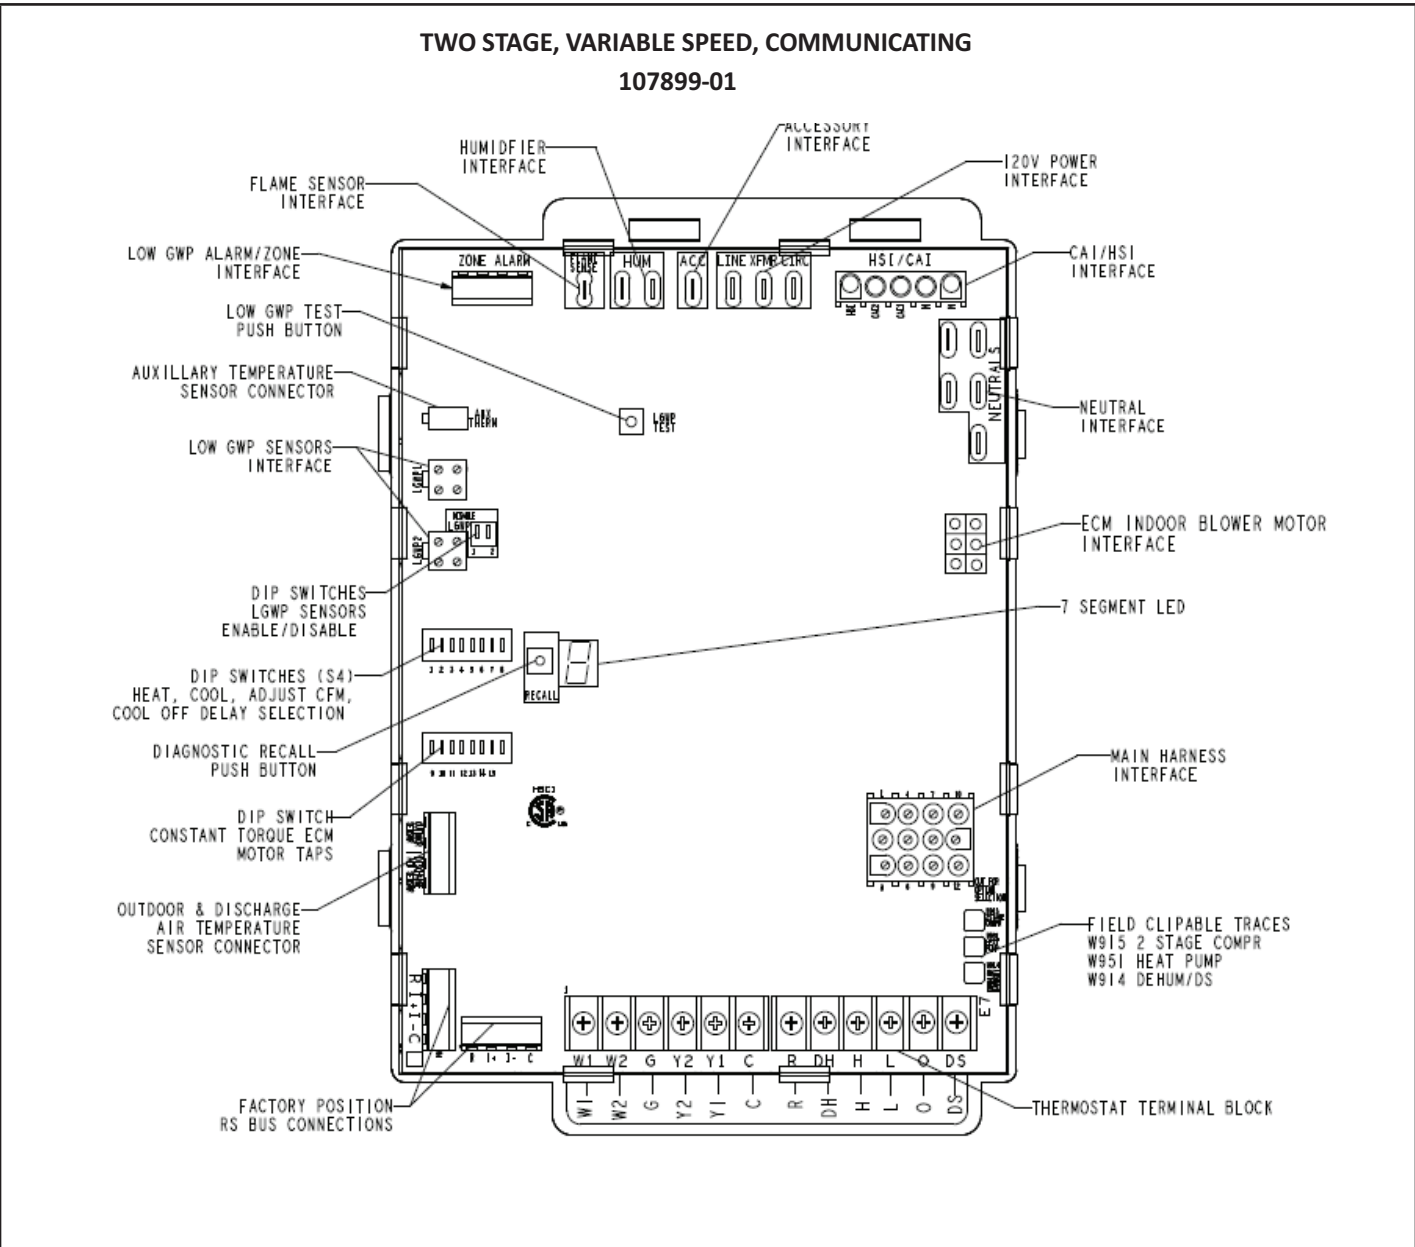

FIGURE 23
- 7 - One line voltage "ACC" 1/4" spade terminal is provided on the furnace integrated control. Any electronic air cleaner or other accessory rated up to one amp can be connected to this terminal with the neutral leg of the circuit being connected to the one of the provided neutral terminals. See FIGURE 23 for control configuration. This terminal is energized when the indoor blower is operating.
**Diagnostic LED (FIGURE 23)**
**Diagnostic Push Button (FIGURE 23)**